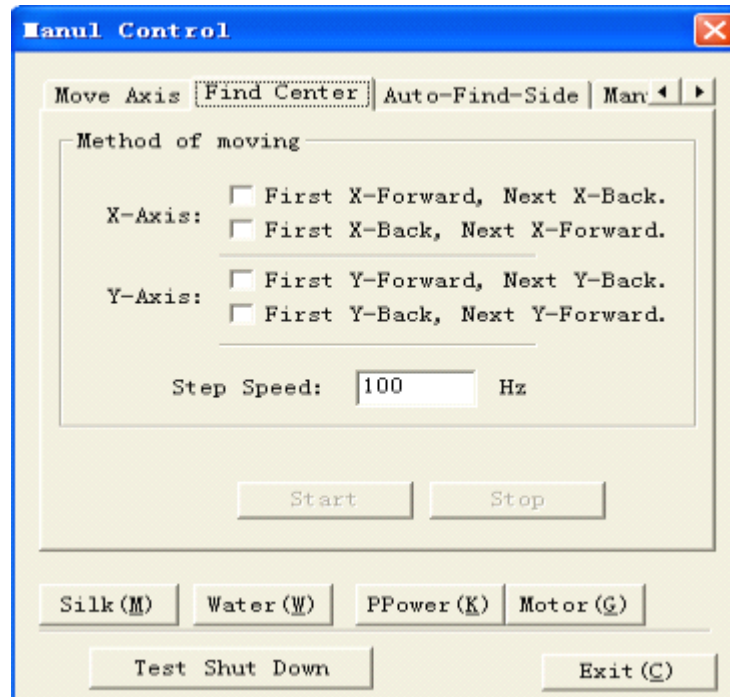

Figure 5.21: Find Center
- 2) **Find Center (Figure 5.21)**